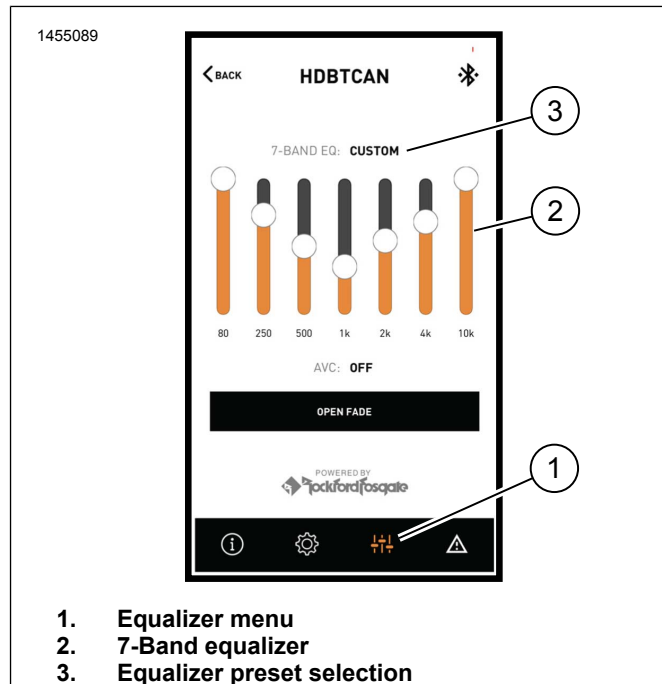

Figure 13. Equalizer Menu
4. Figure 13 Equalizer setup screen.
- Equalizer setup icon (1)
- Tune 7-Band equalizer (2) frequencies.
- Custom or preset equalizer selections (3).